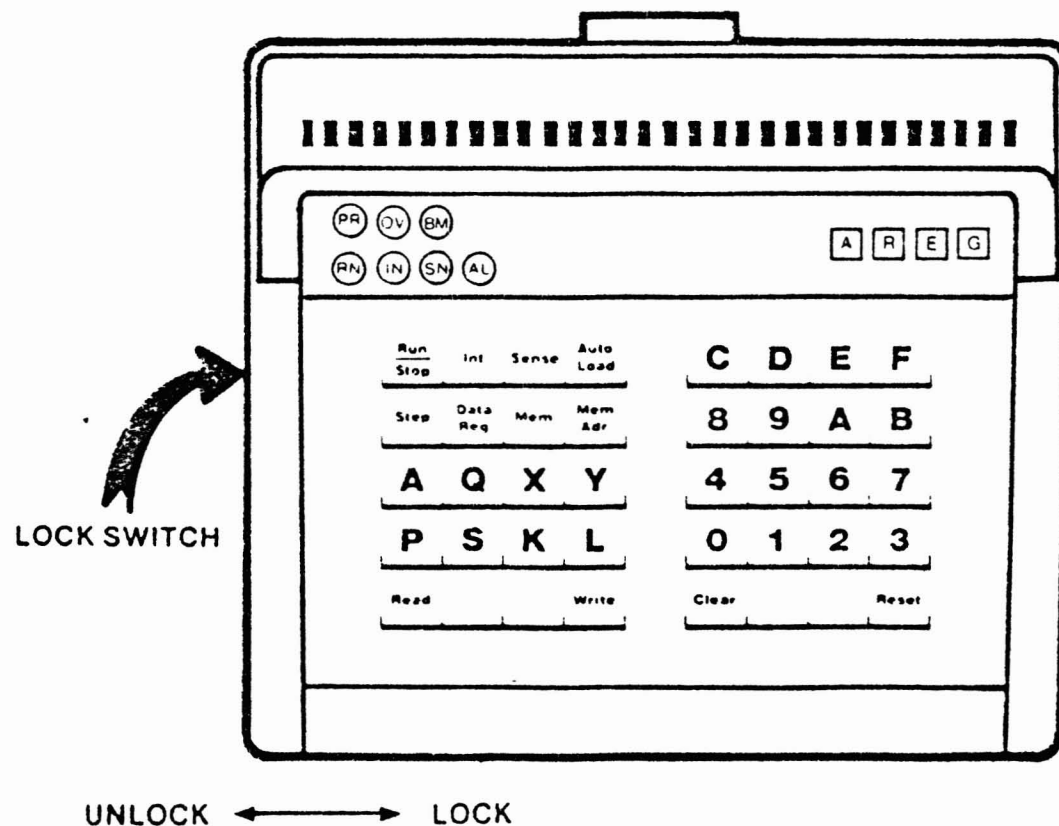

Figure 3-2. Remote Console
- REMOTE PROGRAMMER'S CONSOLE--The Remote Programmer's Console uses the Operator's Console as an interface to the CPU and provides the same features as the Programmer's Console. (Figure 3-2)